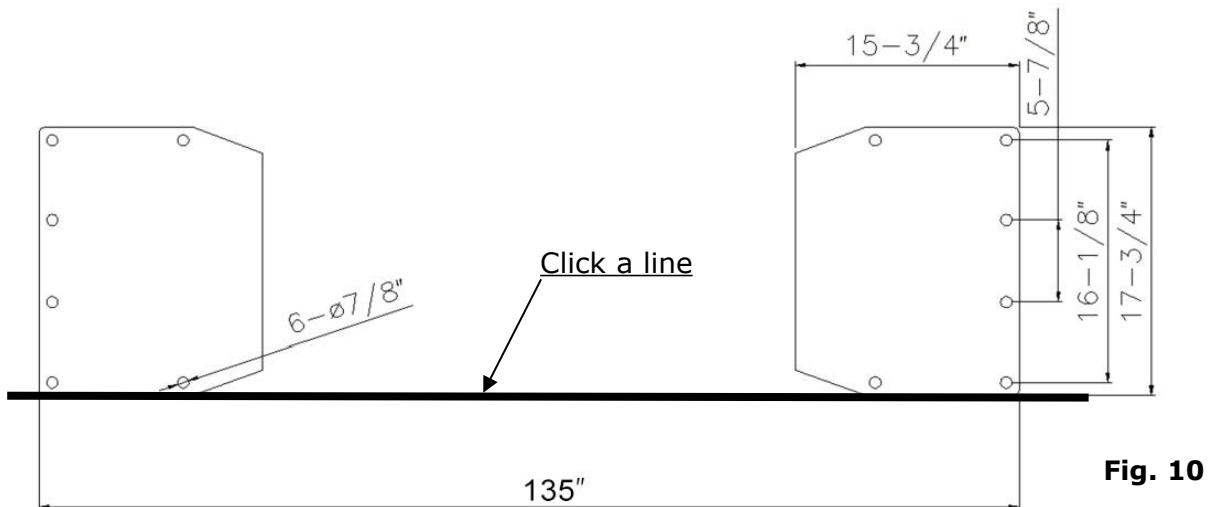

Fig. 10
B. Use a carpenter's chalk line to establish installation layout of base-plate (**See Fig.10**).